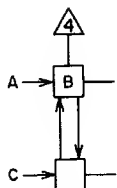

Figure 6. Flip-Flop Symbol
The flip-flop (FF) is a storage device with two stable states--designated as Set and Clear--and is composed of two inverters (Figure 6). The flip-flop is said to be set when the set output (B) is a "1", and clear when it is a "0". Note that the input (A) must be "0" to set the flip-flop and (C) must be "0" to clear it.